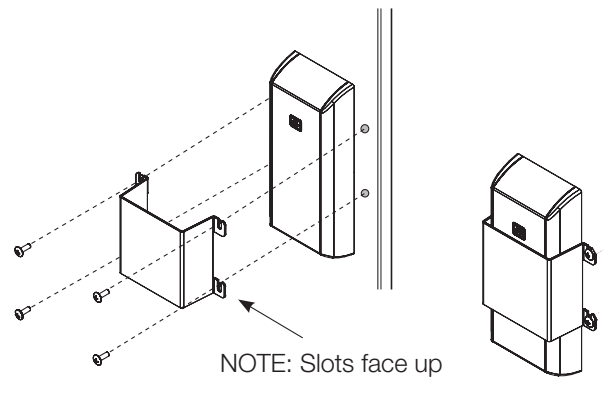

Fig. 12
- a. Install shield (provided) over inside controller. (Figure 12)